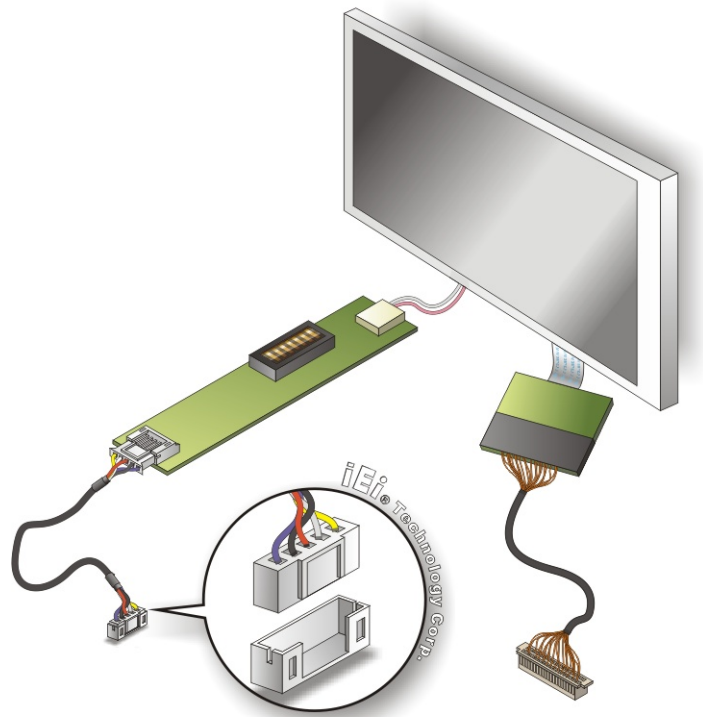

Figure 5-16: Backlight Inverter Connection
Step 4: **Connect backlight connector.** Connect the backlight connector to the driver TFT LCD PCB as shown in Figure 5-16. When inserting the cable connector, make sure the pins are properly aligned.